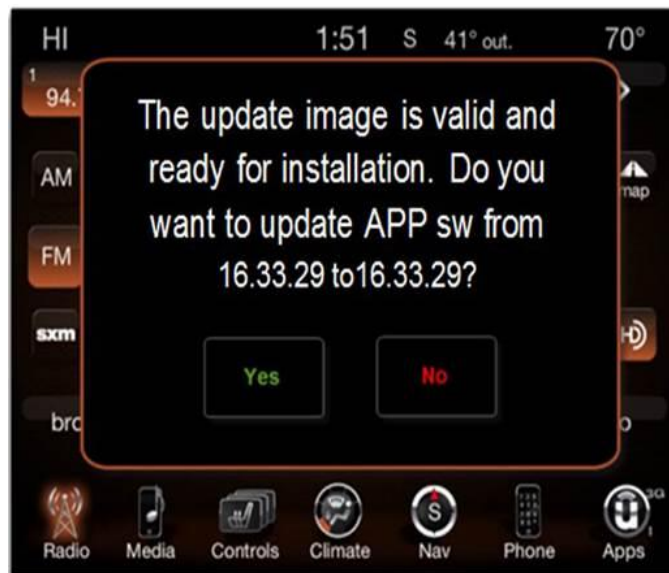

Fig. 4 Updated Software Screen
10. After the update is done the screen will display the software levels again (Fig. 4).